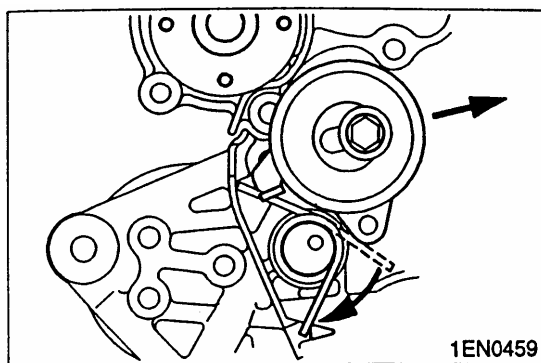
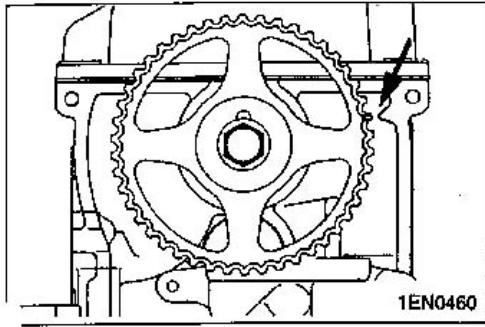

Fig.4-13
Fig.4-14
- c Grip the other tensioner spring projection and fit it onto the oil pump case lug as shown in the illustration, see Fig.4-13.
- d Move the timing belt tensioner in the direction shown and temporarily tighten the bolt, see Fig.4-13.
(3) INSTALLATION OF TIMING BELT
- a Align the camshaft timing mark with the timing mark on the cylinder head, see Fig.4-14.